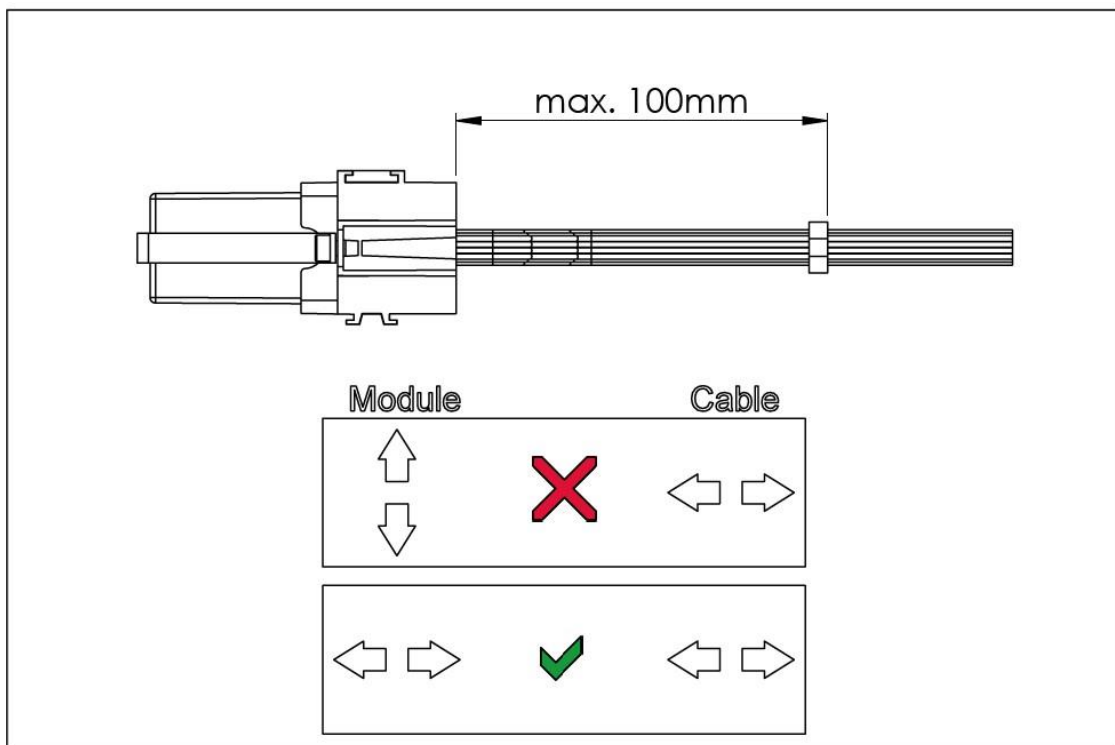

Figure 1: Strain relief of the cable harness (example). 100 mm (max.) are mandatory, voltage converter may vary.
- The cable routing must be selected in such a way that the cable harness only moves identically to the direction of movement of the controller/plug. (Attachment controller/cable/strain relief on the same underground). A strain relief is necessary (see Figure 1).